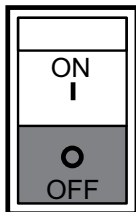

Figure 12. Main Circuit Breaker (OFF)
2. **NEVER** start the engine with the main circuit breaker in the **ON** position. Always place circuit breaker (Figure 12) in the **OFF** position before starting.